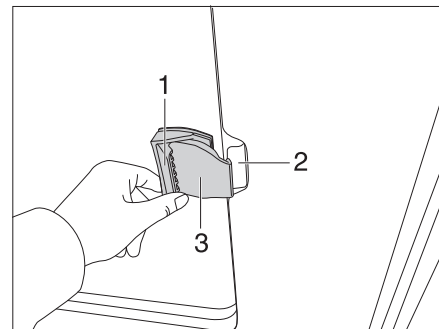

Fig. 64 Sliding window without lock
- Pull the handle flap (Fig. 64,1) and push or pull the handle forwards at the same time.